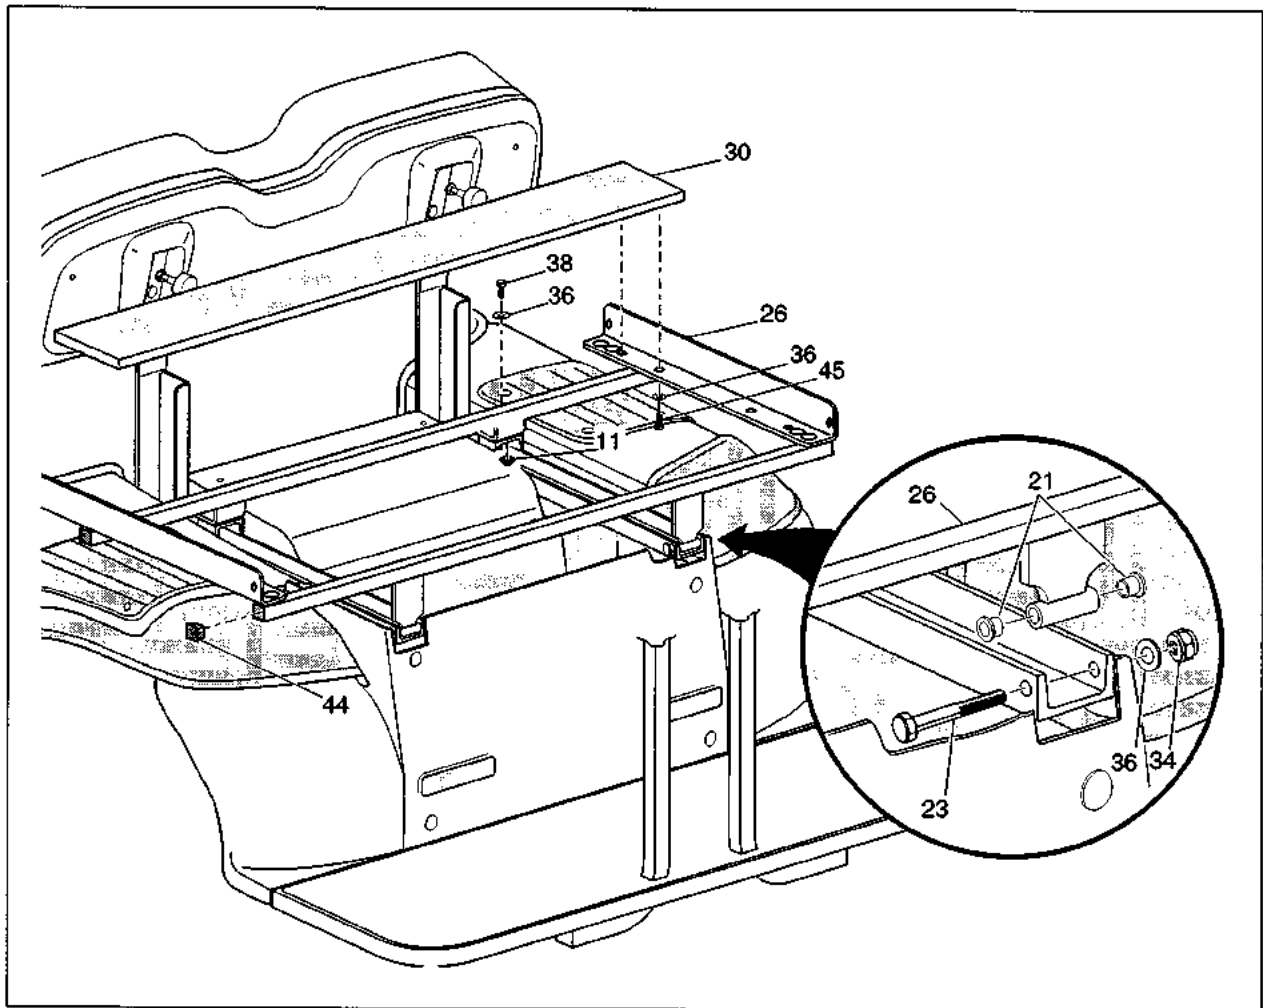

Fig. 7
5. As a 'test fit', place the support frame (item 26) into the channels of the seat back support and tighten the hardware securing the seat back support to the vehicle frame and vertical frame support to 21-25 ft. lbs. torque. (See Fig. 7)
E. INSTALLING SUPPORT FRAME (Refer to Fig. 7)
1. Insert the nylon bushings (item 21) into the pivot brackets in the support frame (item 26) (4 places).
3. Insert the bolt (item 23) through the pivot from the center of vehicle (2 places) and secure with washer (item 36) and nut (item 34).
4. Secure front of support frame to seat back support using bolt (item 38), washer (item 36) and nut (item 11).
F. INSTALLING FIXED BED (Refer to Fig. 7)
1. Attach front bed (item 30) to support frame (item 26) using bolt (item 45) and washer (item 36). (Two places on each end of front bed. Tighten to 5 - 7 ft. lbs. torque.